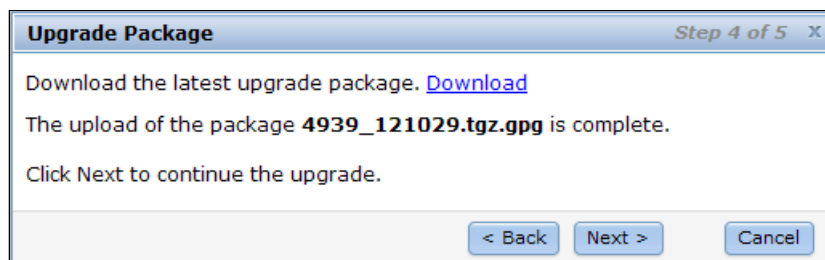

Figure 13-15 Step 4 of 5 - Upload the package to the system
9. Click **Next** to upload the upgrade package to the system and next click Browse to select a file, as shown in Figure 13-15.